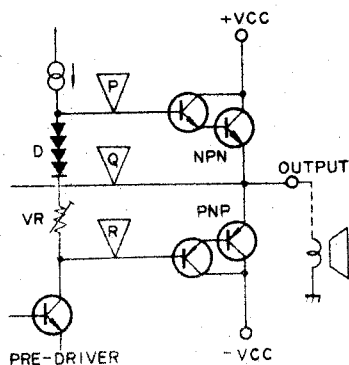
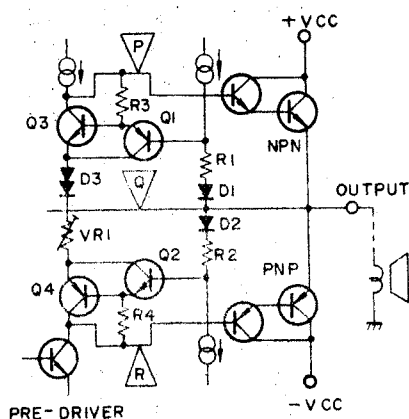

Fig. 4 Normal class B SEPP power stage
Fig. 5 Outline of NSA circuit
Since idle current flows through normal class B SEPP power stages (see Fig. 4) when no signal is applied, the DC level is shifted by D and VR by a fixed amount (with the voltage across points (P) and (R) serving as a bias). The voltage across points (P) and (Q), and (Q) and (R) at this time will be equal. When the positive portion of a signal
This NSA circuit is outlined in Fig. 5. When there is no signal applied to the circuit, Q_1 and Q_2 are almost cut off, while Q_3 and Q_4 will be on. The voltage across the collector and base of both of these transistors (Q_3 and Q_4) at this time may be disregarded. Consequently, with the power stage bias circuit consisting of 4 PN junctions formed by Q_3 , D_3 , and Q_4 , and VR_1 , this circuit is equivalent to the previous circuit shown in Fig. 4.